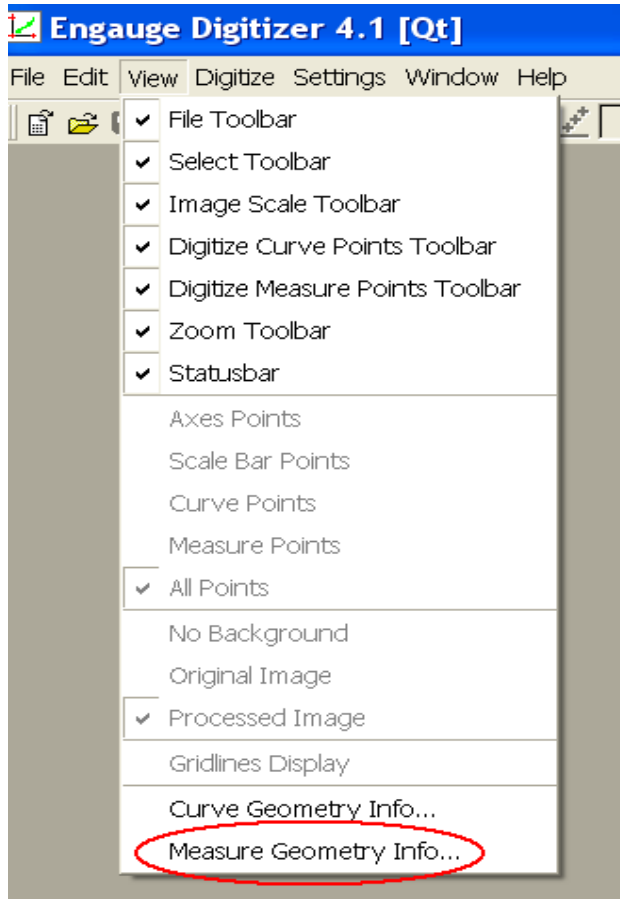

Figure 12a, the Measure Geometry Info...option
- b. If you Click on View/Measure Geometry Info...(Figure 12a), The digitized data are shown in the Measure Geometry Panel. The first Column and the second Column are the data points.(Figure 12b)